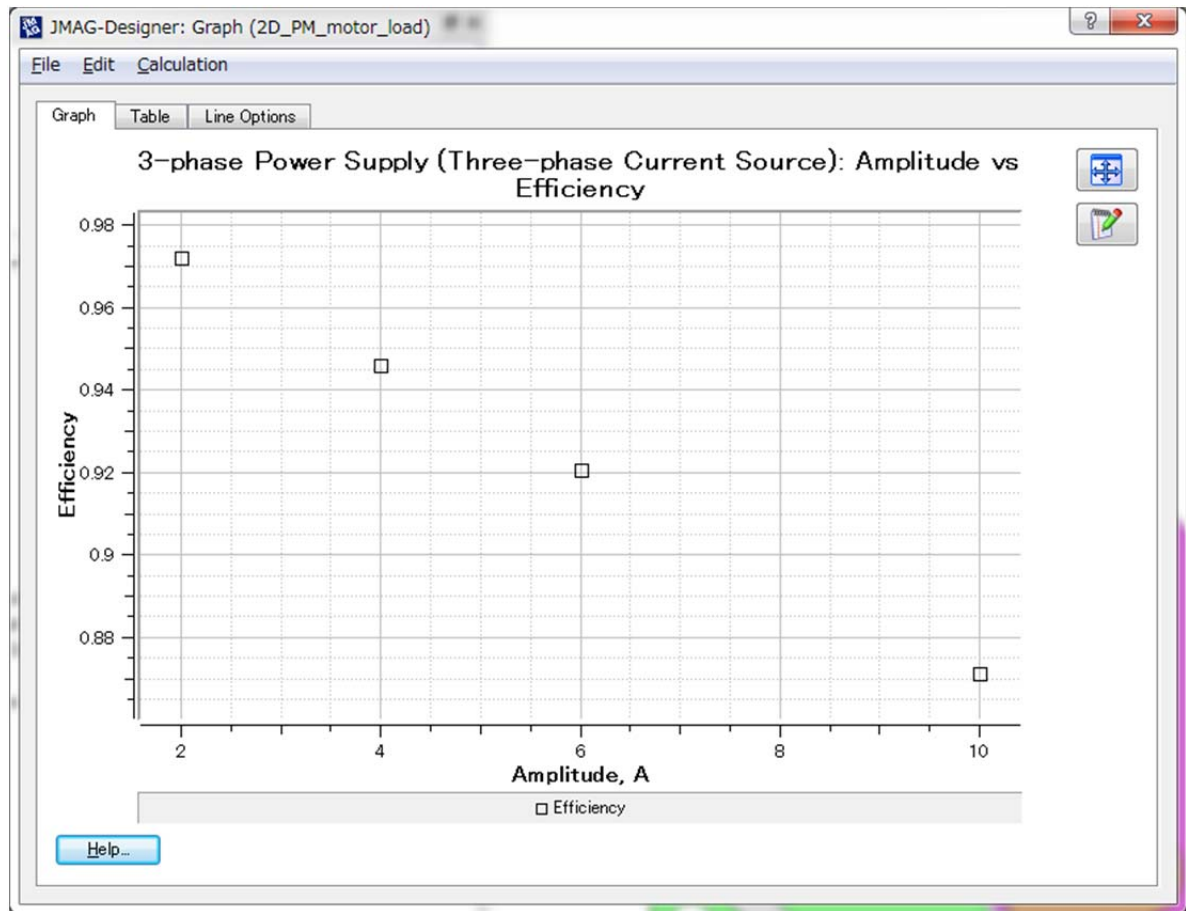

Fig .2 Current amplitude - efficiency characteristics graph
- III. The current amplitude - efficiency characteristics graph of Fig. 2 can be obtained.